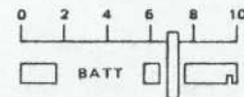

Fig. 12 Battery Check
- (1) Turn the squelch knob counterclockwise all the way to the BATT position. Adjust the source voltage to 9.6 V.
- (2) Turn VR5 in the TX unit until the S-meter pointer is between the red and black zones as shown in Fig. 12.